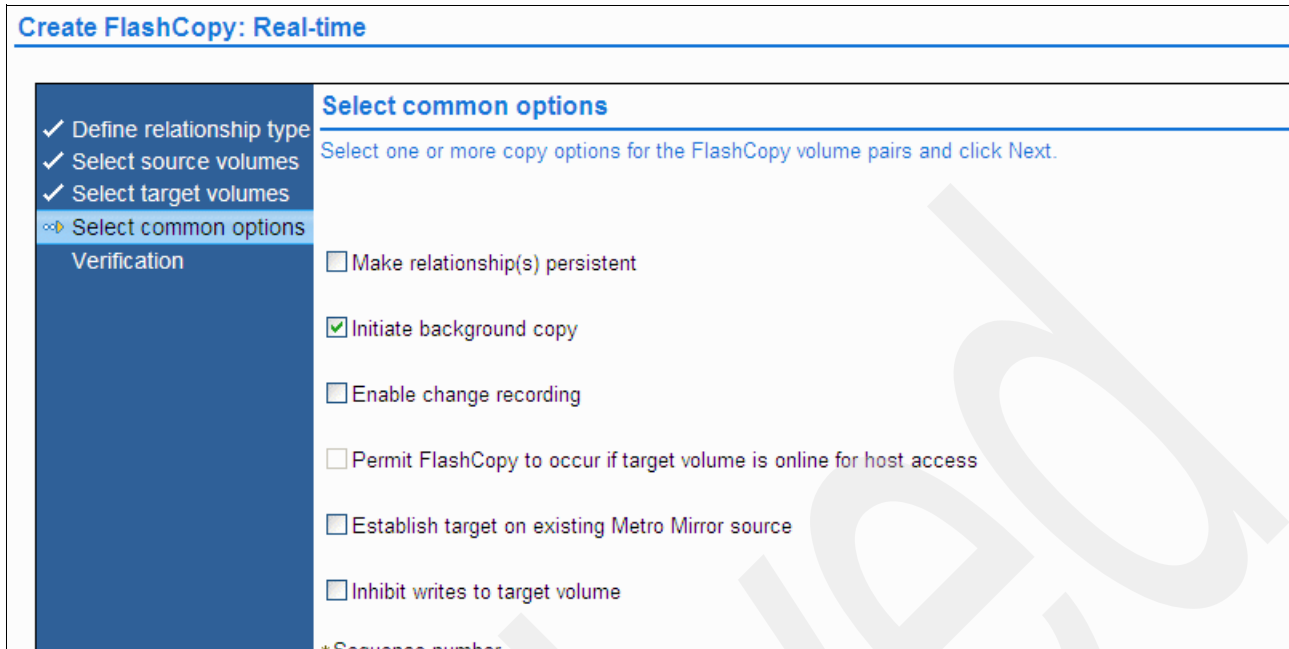

Figure 11-9 FlashCopy startup options
7. In the Select common options panel, select the parameters that you require (as shown in Figure 11-9). If you leave the default Initiate background copy option selected as in our example, a full copy of the data is forced from the source to the target.